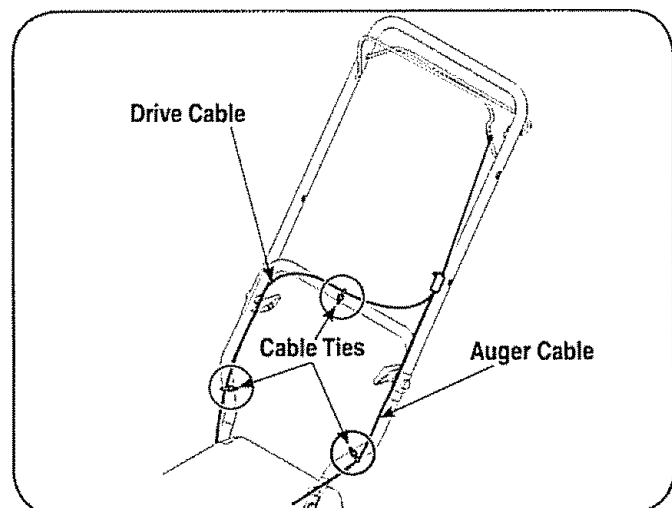

Figure 3
NOTE: The auger cable routes down the left side of the handle while the drive cable is routed across the top of the lower handle and down the right side of the lower handle. See Figure 3.
7. Three cable ties have been used to loosely tie the control cables to the lower handle. Position cable ties now, as in Figure 3, and tighten to secure cables to the lower handle. Trim off excess material of cable ties.